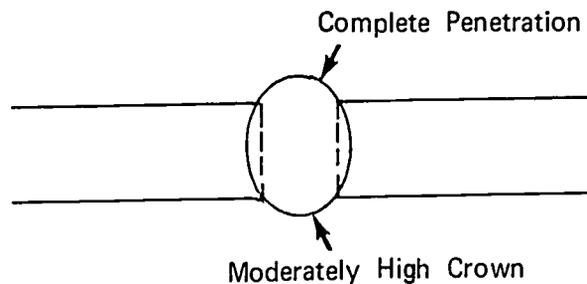

FIGURE 5
- H. Travel at a speed that will penetrate joint 100% regulating penetration and bead size by travel speed, electrode angle, and stick out (Figure 5)
(NOTE: See Figure 5.)